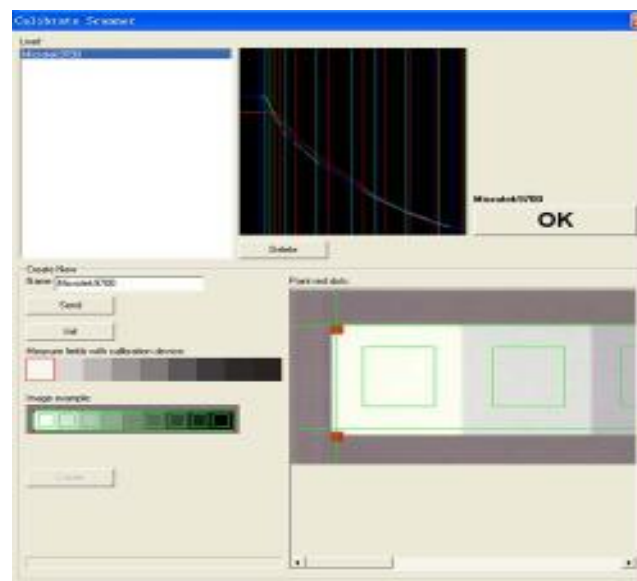

Fig 2.7.5
- On the top left of the window highlight **myscanner.tsc** and then click **OK** (Fig 2.7.5).